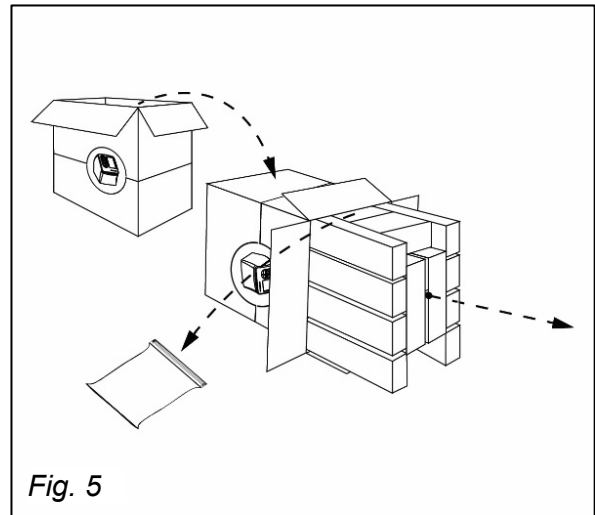

Fig. 5
- 2.2.4. Rotate the box on its side (Fig.5)
- 2.2.5. Slowly slide the instrument and surrounding foam out of the box using the brown tube found between the foam panels (Fig.5)
- 2.2.6. Remove the Accessory Bag and set aside (Fig.5)